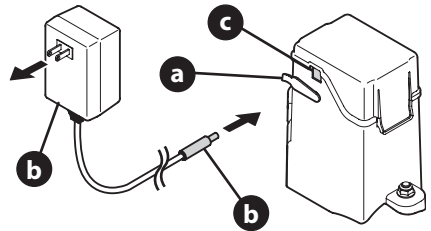

Figure 44
1. Open the charging port cover (a) and plug the charger lead (b) into the charging port (c) (Figure 44).